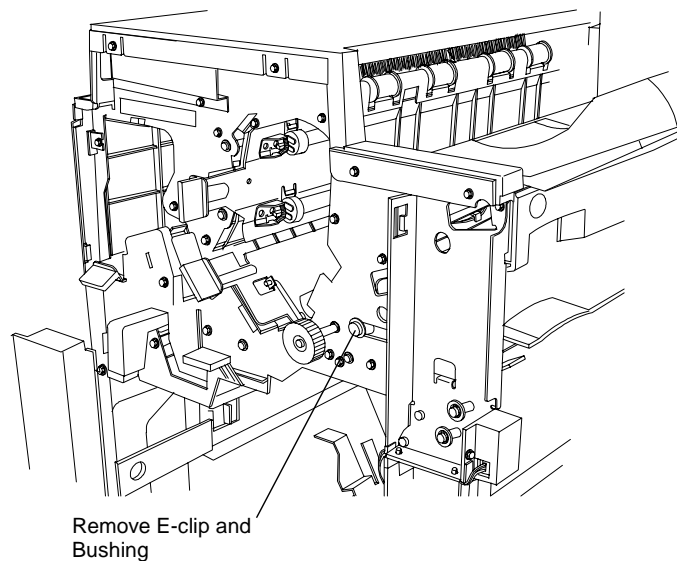

Figure 1 Removing E-clip and Bushing
5. Remove E-clip and Bushing from the Eject Pinch Shaft (Figure 1).